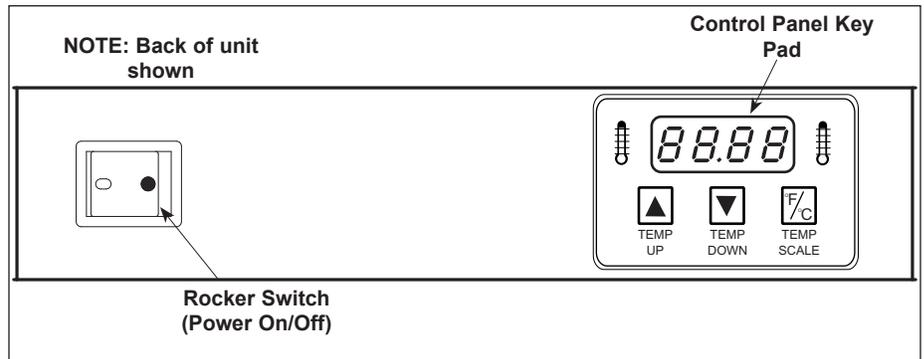

Figure 3. Controls
For units **ONLY** equipped with Water Tray(s) and diffuser(s) (Figure 3):
3. To change the display from Fahrenheit to Celsius and back, press and hold the Temp Scale button (Figure 3) for 2-3 seconds and release.